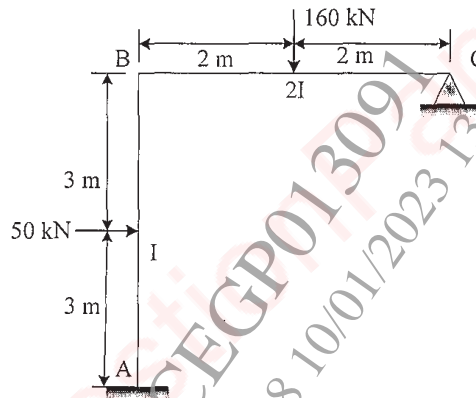

Fig. 10
b) Analyse the bent shown in Fig.10 by stiffness method and draw bending moment diagram. [11]